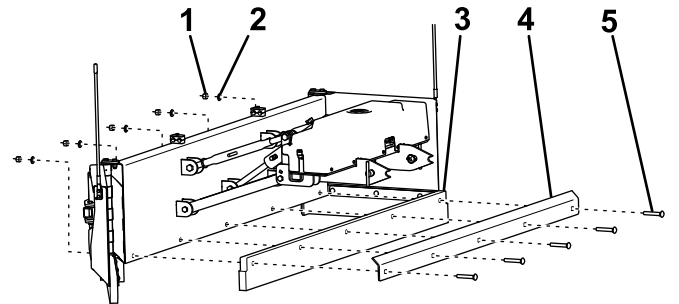

Figure 2
4. Install the rubber cutting edge using the bolts, strap, washers, and nuts provided as shown in Figure 2.